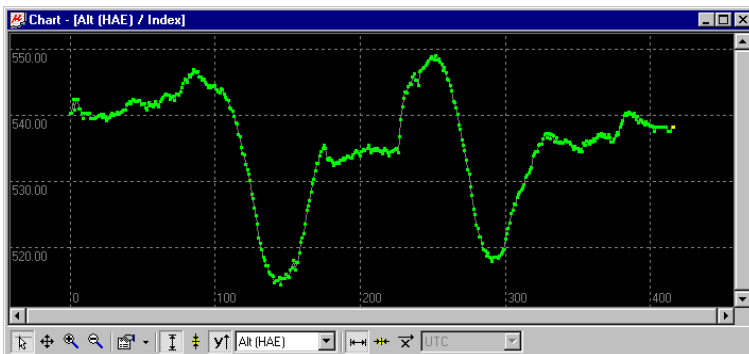

Figure 31: Altitude as a function of Index (X = Index, Y = Alt)
- X = Index and Y = Value (Index), see Figure 31